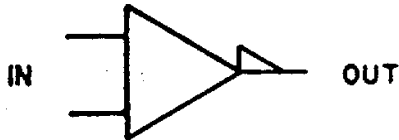

Figure 4-9. Multiple Input Amplifier (Optional Symbol)
b. Limited use is also made of the optional symbol. (See Figure 4-9.)